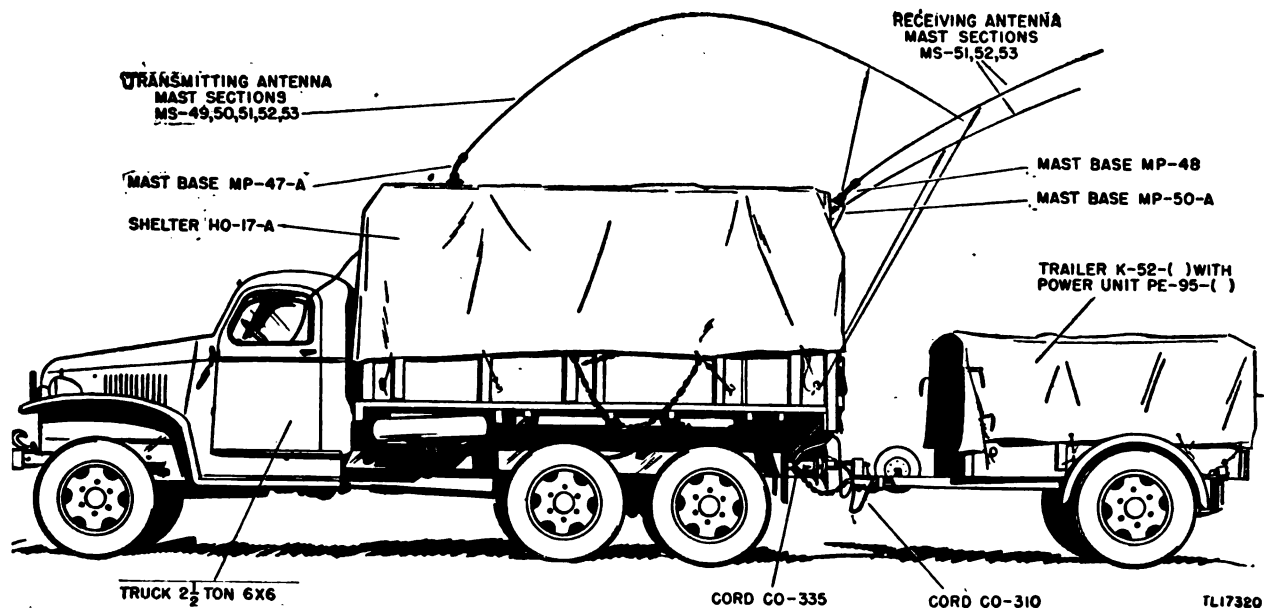
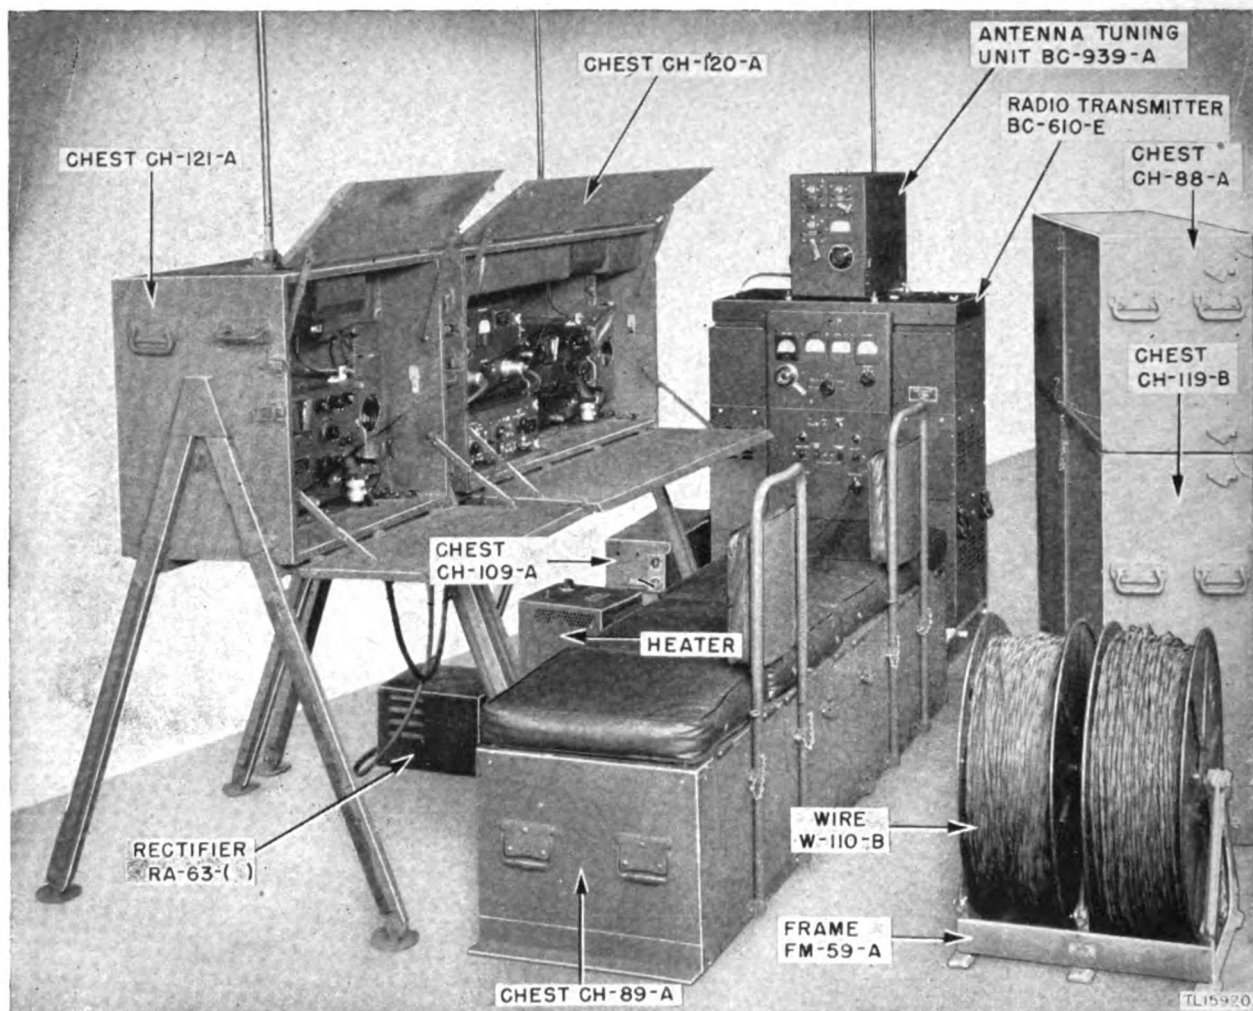
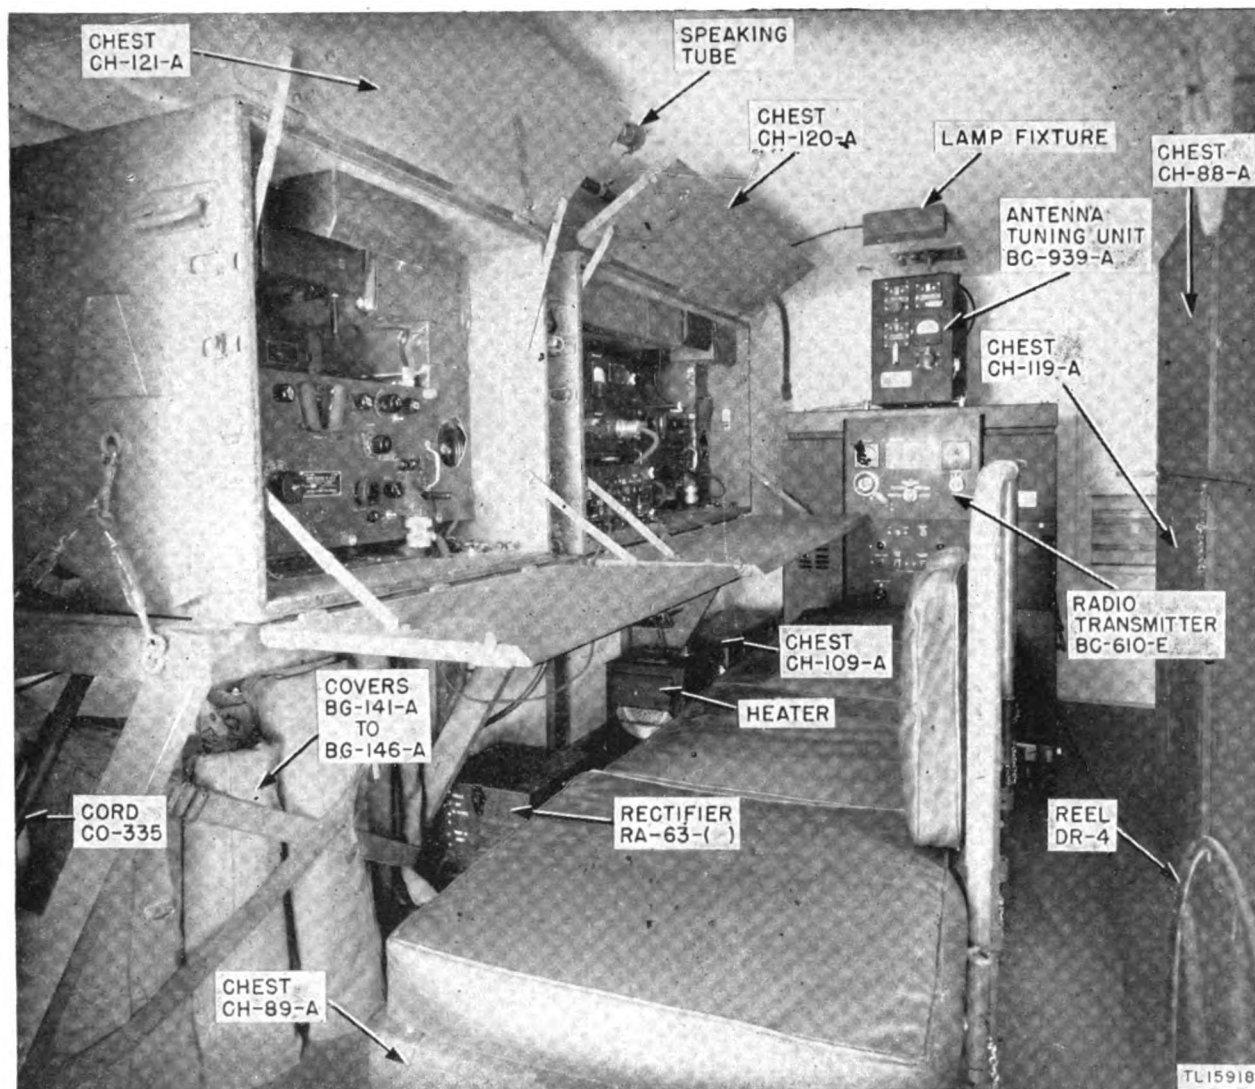

Figure 1. Radio Set SCR-399-A installed as a mobile station.
Figure 2. Radio Set SCR-499-A, operating and accessory components arranged as a fixed station.
Figure 3. Radio Set SCR-399-A installed in Shelter HO-17-A.
a. This manual covers Radio Sets SCR-399-A and SCR-499-A. There are no differences in the operating components and power sources of the two sets, but Radio Set SCR-399-A is usually installed as a mobile station (fig. 1) and Radio Set SCR-499-A is ordinarily set up as a fixed station (fig. 2). To facilitate its use as a mobile station, Radio Set SCR-
Radio Set SCR-399-A is a relatively high-power radio communications station. Under all conditions of atmosphere and terrain, the radio set will provide voice or c-w (continuous-wave) communication over a range of more than 100 miles from a stationary position, or while moving at high speed. For mobile use, Shelter HO-17-A should be mounted on a 2½-ton, 6 x 6, cargo truck. (See fig. 1.) Two seats in the truck cab carry the driver and his alternate. In the shelter (fig. 3), two operators may sit at the radio station operating positions. Power Unit PE-95- () may be started and stopped by remote control or at the trailer. The transmitting